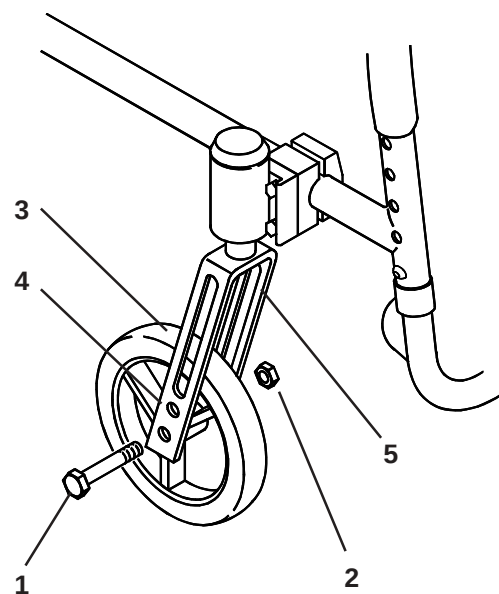

Fig. 49
Two-hole castor forks allow you to interchange 125mm (5"), 150mm (6") and 200mm (8") castor wheels and to adjust the seat height (Fig. 49). To adjust, remove the axle bolt (1) and nut (2) with 13mm A/F spanners and remove the castor wheel (3). Either change the castor wheel size and/or position the castor wheel upward or downward in the desired pre-drilled holes (4) 25mm (1") apart on the castor fork (5). Replace the bolt and tighten to 27Nm torque. (Fixed front frame).